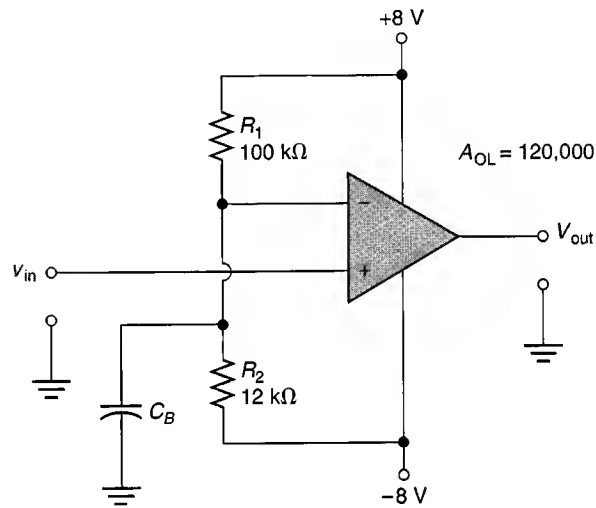

FIGURE 16.37
- Determine the value of V_{ref} for the comparator in Figure 16.37.